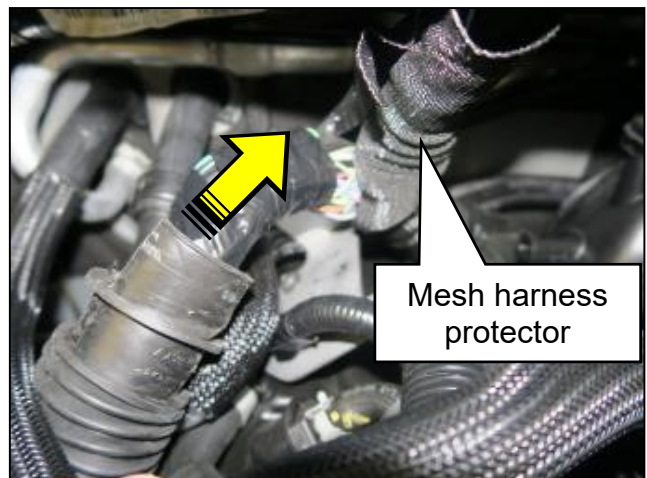

Figure 16
- To expose the harness, carefully move the mesh harness protector toward the back of the engine, as shown in Figure 16.